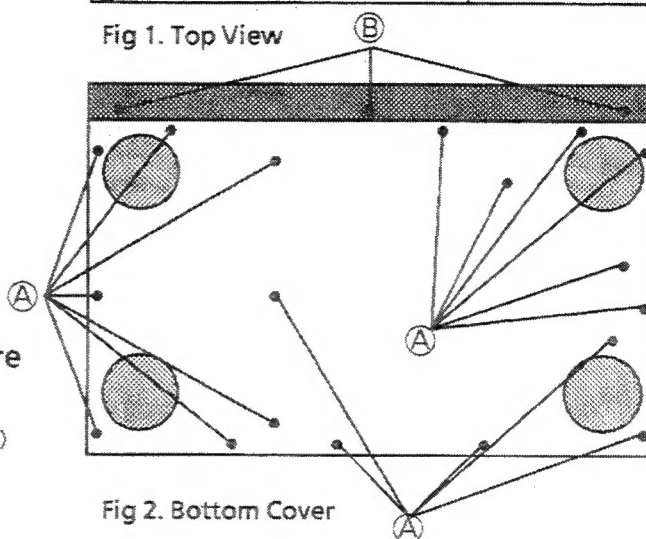

Fig 2. Bottom Cover
1. Remove the 18 screws (A). (Fig 2)
(3) Removing the Front Panel